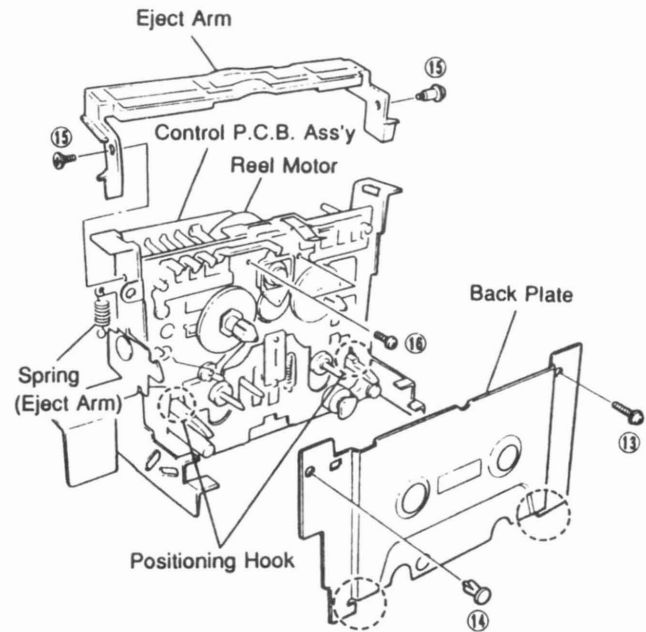

Fig. 7
- a. Remove 1 screw (⑬) and 1 plastic rivet (⑭) in Fig. 7.
(*When reinstalling it, be sure to fit its lower ends to the positioning hooks in Fig. 7.)
- c. Detach the spring (Eject Arm) in Fig. 7.
- d. Remove 2 special screws (⑮) and then remove the Eject Arm in Fig. 7.
- g. Remove 2 screws (⑯) and then remove the Reel Motor in Fig. 7.